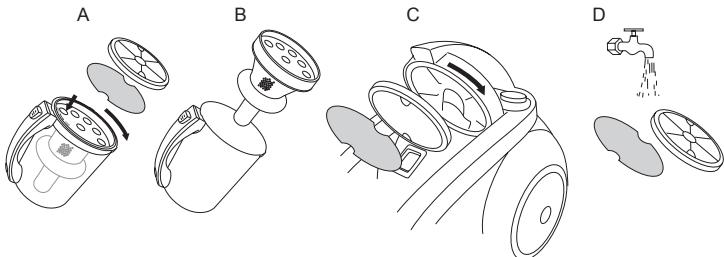

Figure 12      *Removing the filter*
2. Turn the first filter from the dust container. (A)
3. Turn the second filter from the dust container. (B)
4. Turn the third filter from the vacuum cleaner. (C)
5. Rinse all filters thoroughly in lukewarm water. (D)
**Attention** The filter fits only one way in the holder. The arrow must be at the side of the handle. (See figure 12 A)